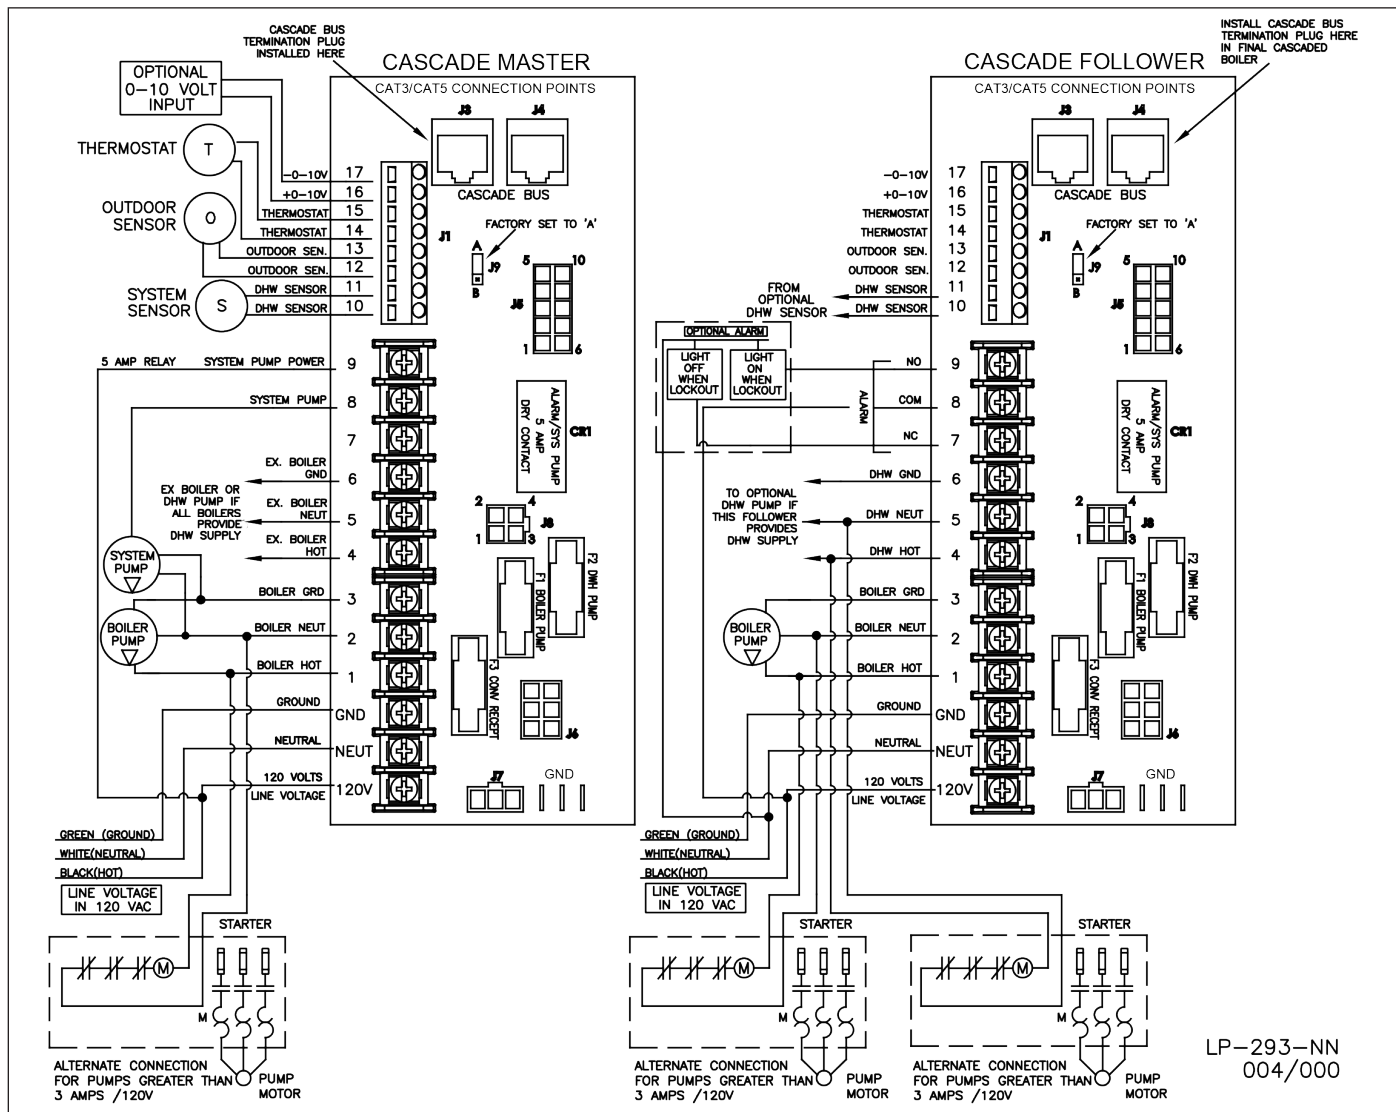

Figure 30 - Cascade Master and Follower Wiring
1. A Cascade Bus Termination Plug has been installed on the customer connection board of this boiler. The purpose of this plug is to stabilize communication between multiple boilers and reduce electrical "noise". See Figures 30 and 31 for Cascade Bus Termination Plug installation detail.